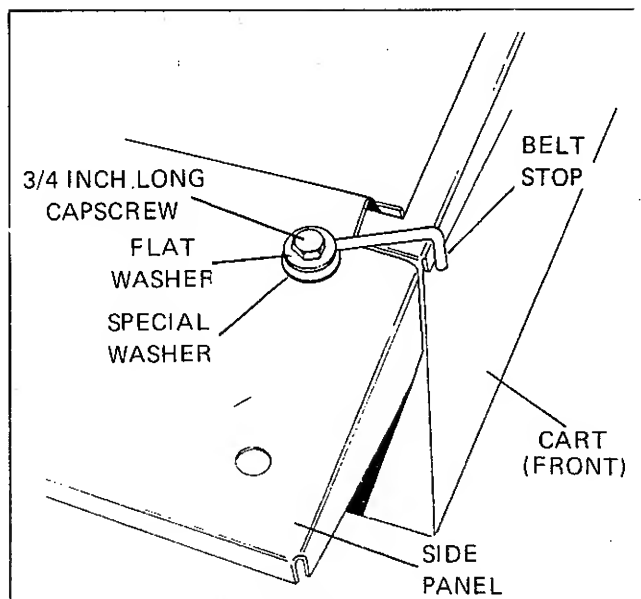

FIGURE 18
6. Secure belt stop to inside front of side panel with two flat washers (one above and one below side panel), special washer, 3/4 inch long capscrew, and locknut (Figure 18). Position belt stop at angle illustrated. Repeat procedure for remaining front corner.